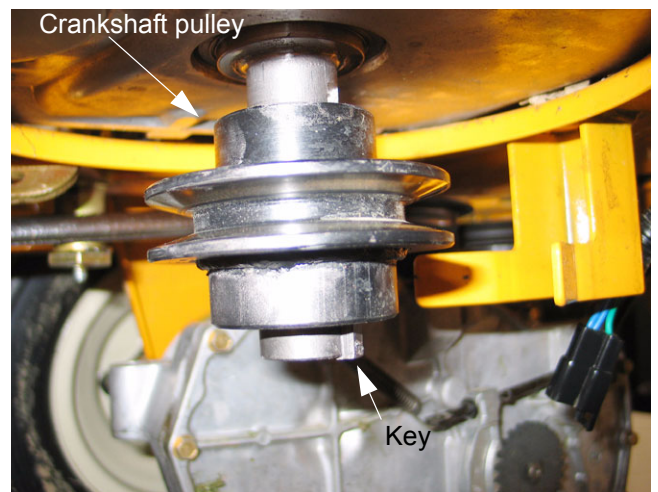

Figure 5.5
- 5.5. Remove the crankshaft pulley. See Figure 5.5.